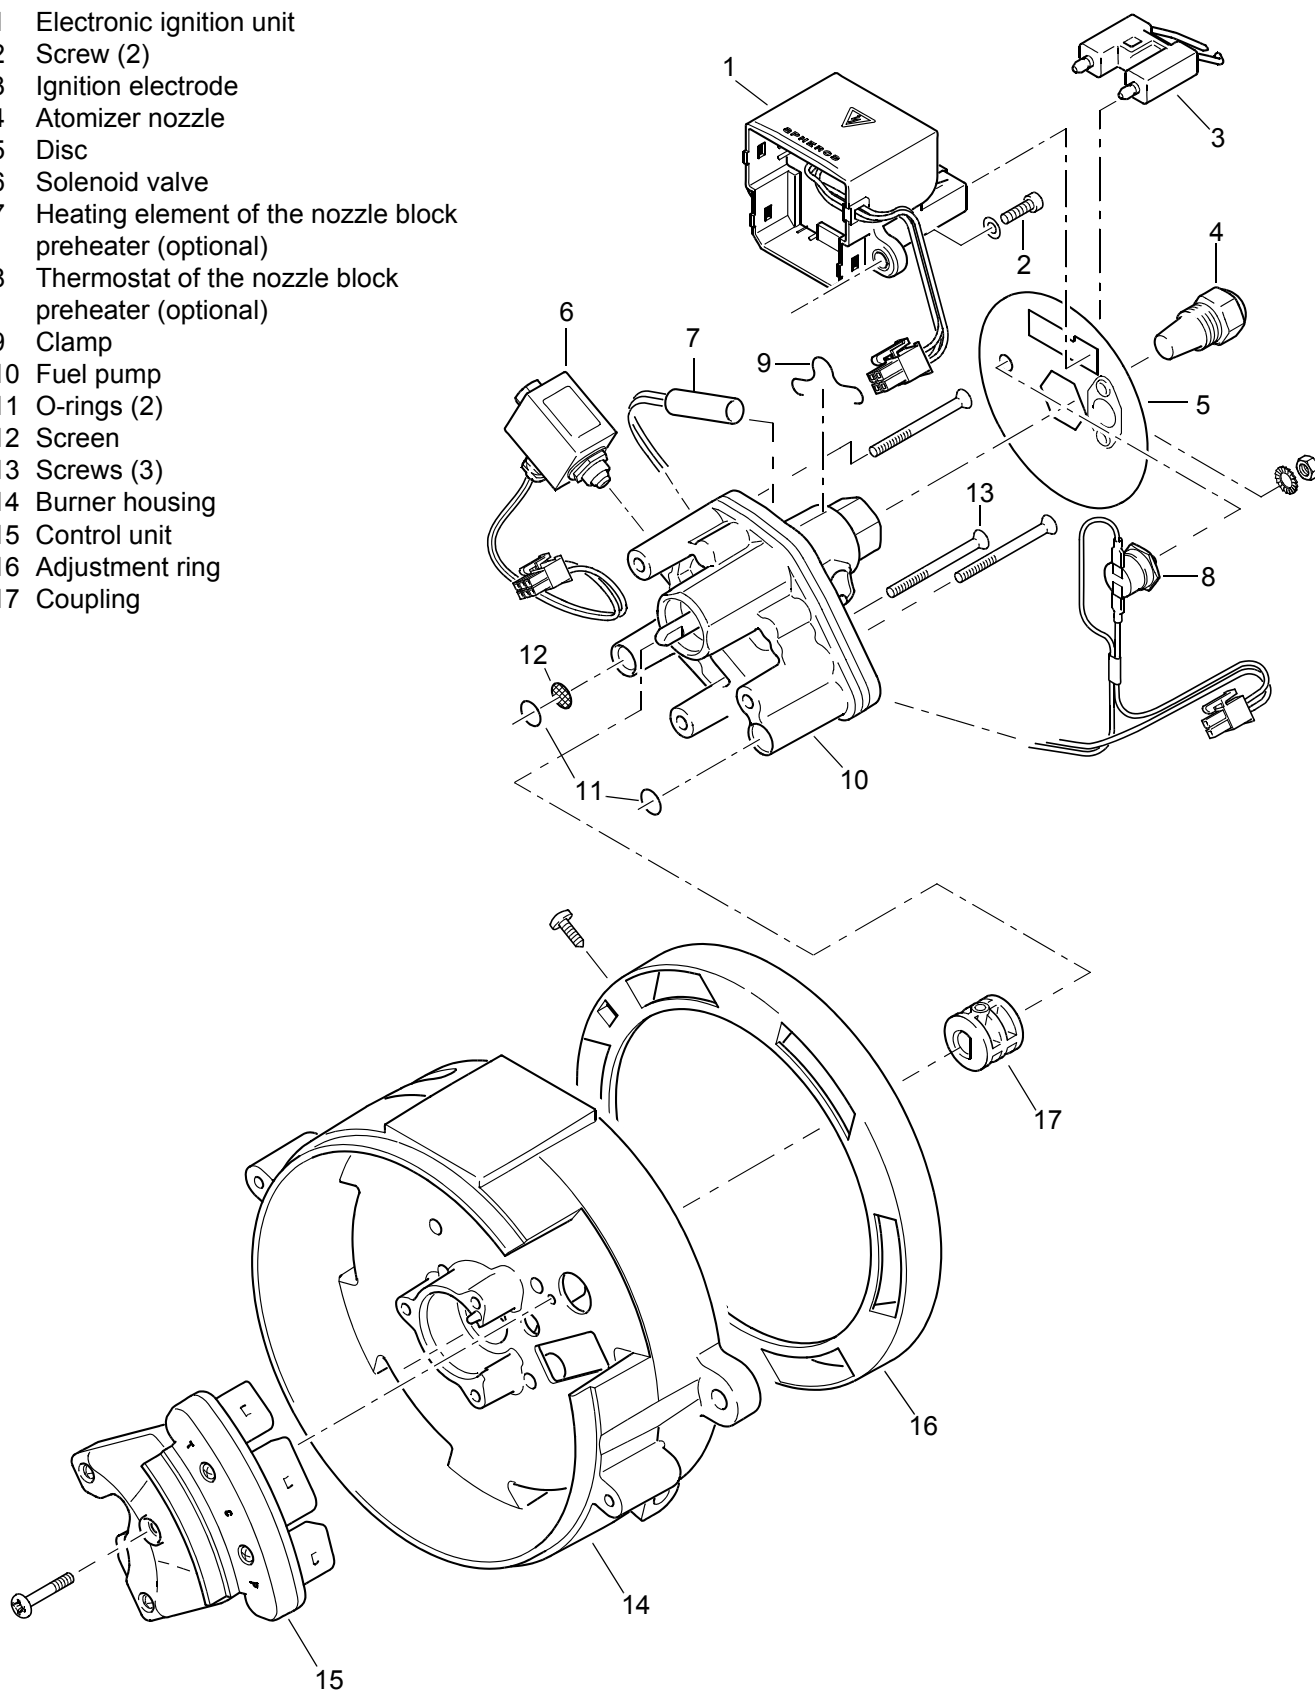
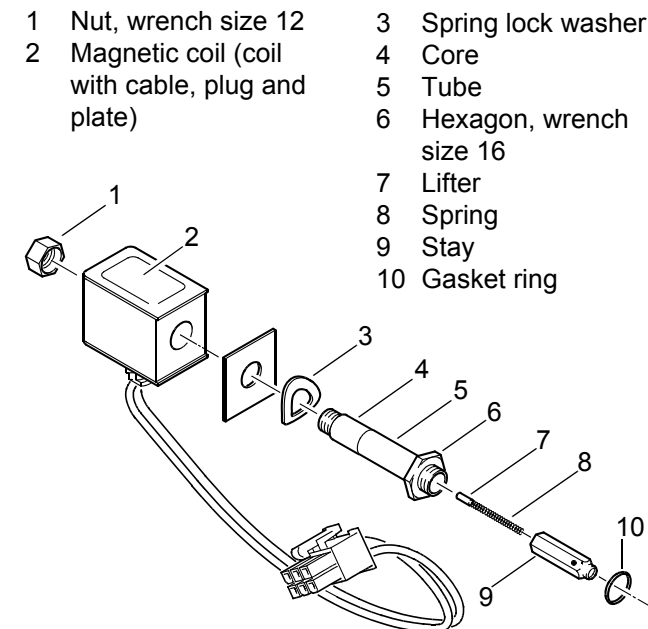

Fig. 805 Components removal and installation
Fig. 806 Solenoid valve
2. Tighten screws (4) with 5 Nm +1 Nm.
3. Fit disc (5) onto the nozzle holder of the fuel pump (10, Fig. 805) and align with the flame detector in the control unit (15, Fig. 805) and the electronic ignition unit.
3. Remove disc (3).
4. Disconnect the solenoid valve plug (6, Fig. 805) and the optional nozzle block preheater (7) from the control unit (15).
5. Remove screws (13).
6. Pull fuel pump (10) with solenoid valve (6) off and remove it.
7. If applicable, remove the nozzle block preheater (7). For this purpose, remove clamp (9) from the nozzle holder using suitable tools.
8. If necessary, remove the solenoid valve (6) from the fuel pump (10) (see 8.9).
1. If necessary, attach solenoid valve (6, Fig. 805) to the fuel pump (10) (see 8.9).
2. If applicable, install nozzle block preheater (7) and secure with clamp (9) to the nozzle holder using suitable tools.
3. If required, attach new O-rings (11) and a new screen (12) to the fuel pump (10).
4. Slide the coupling (17) with magnets onto the fuel pump (10) shaft.
3. Remove disc (5, Fig. 805).
4. Disconnect the solenoid valve plug (6) from control unit (15).
5. Using suitable tools loosen the hexagon, wrench size 16 (6, Fig. 806) of the solenoid valve (6, Fig. 805) from the fuel pump (10) and unscrew the solenoid valve (6).
1. Gasket ring (10, Fig. 806) towards the fuel pump must be replaced. Make sure stay, spring and lifter are correctly assembled, observe installation position (see Fig. 806).
2. Attach solenoid valve (6, Fig. 805) to the fuel pump (10).
3. Using suitable tools, tighten hexagon, wrench size 16 (6, Fig. 806) of the solenoid valve with $5 \text{ Nm} \pm 0.5 \text{ Nm}$.
4. Connect the solenoid valve plug (6, Fig. 805) to the control unit (15).
5. Fit disc (5) onto the nozzle holder and align with the flame detector in the control unit (15) and the electronic ignition unit (1).
6. Fit ignition electrode (3).
If the nut, wrench size 12 (1, Fig. 806) was loosened, then it must be tightened with a tightening torque of $1.5 \text{ Nm} + 0.3 \text{ Nm}$ and subsequently secured using locking paint.
1. Screw in the atomizer nozzle (4, Fig. 805) and tighten with $20 \text{ Nm} \pm 2 \text{ Nm}$. If no nozzle wrench is used, a tool must be used to counter on the hexagon of the fuel pump nozzle holder (10).